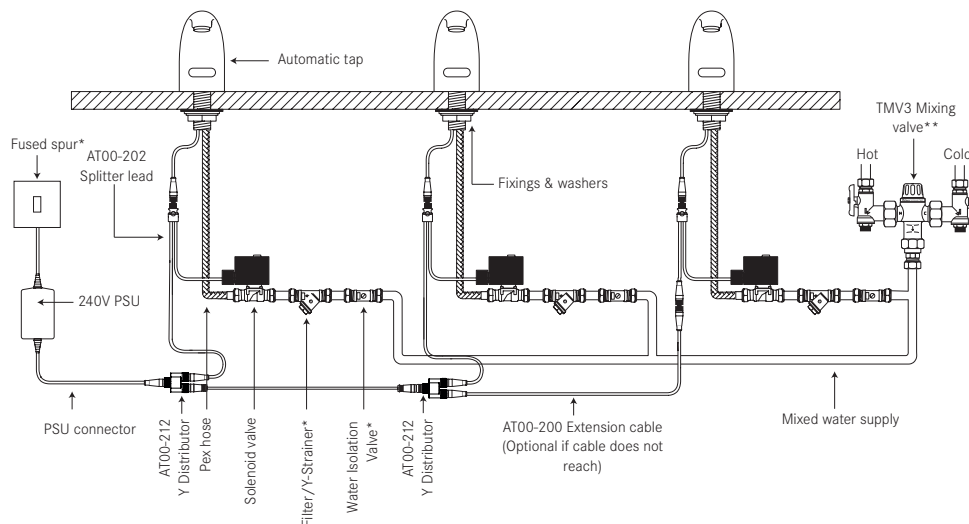

Fig. 3 Multiple set up
- Check / Clean all connectors (shown in Fig 3).